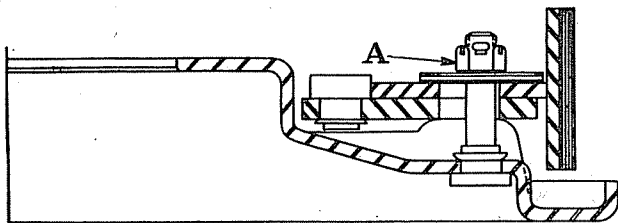

Fig. 20—Shoe Hold Down Bolt Adjustment.
- (1) After the shoes and levers have been assembled to the supports the shoe hold down bolt nut "A" Figure 20, should be adjusted to .015 inch between the face of the hold down plate washers and the brake shoe.
- (2) With the brakes cold and the drum in place, rotate the drum in both directions to be sure the brakes are free.